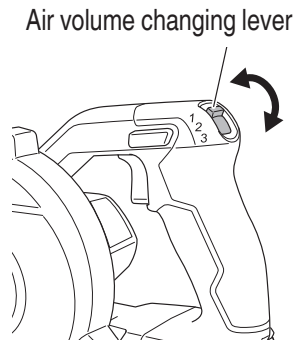

Fig. 13
- Air volume control function (Fig. 13)